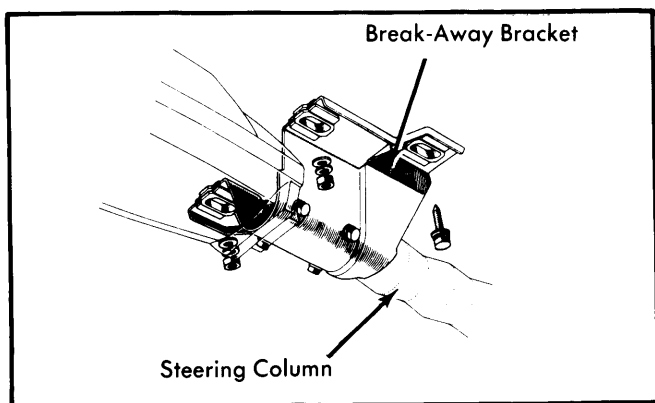

Fig. 2 Column Mounting Bracket (Corolla Shown, Corona Similar)
2) Remove steering wheel and turn signal switch. See *Steering Wheel and Column Switch* in *STEERING* Section. From inside passenger compartment, remove bolts mounting hole cover to firewall. Remove nuts and bolts mounting the break-away bracket (Fig. 2) then withdraw steering column assembly into passenger compartment and free from vehicle.